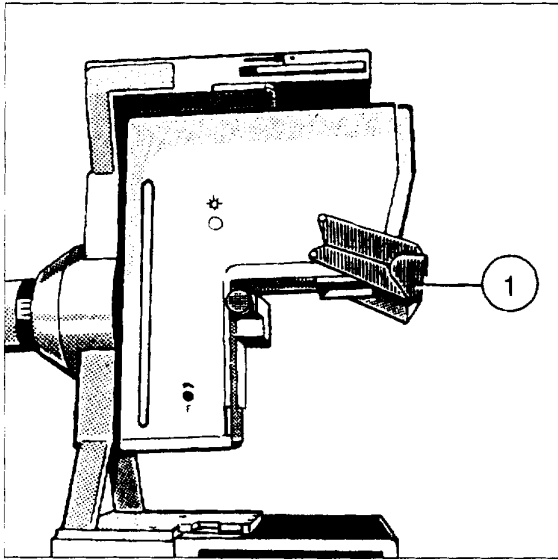

Fig. 3
- Remove the head guard (1/Fig.3) by removing the screws.